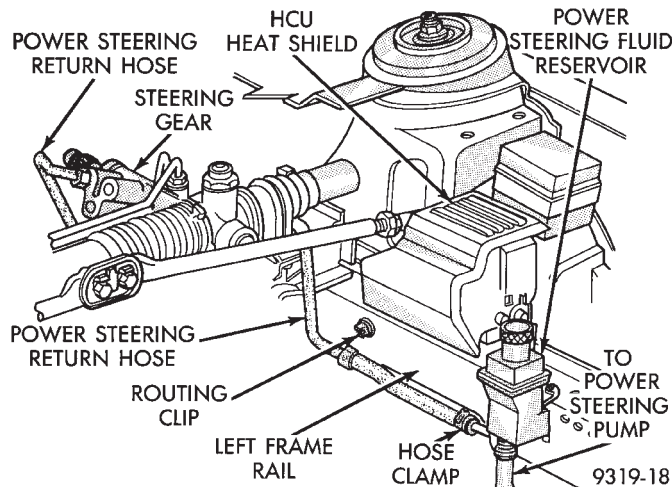

Fig. 6 Power Steering Return Hose Routing And Attaching
(3) Unclip power steering return hose from routing clip on frame rail (Fig. 6).
(4) Position drain pan under remote power steering fluid reservoir. Remove hose clamp from power steering return hose at remote power steering fluid reservoir (Fig. 6). Let power steering fluid drain from remote reservoir.
(1) Using a lint free towel, wipe clean the open power steering hose ends, power steering fluid reservoir and steering gear ports.
(2) Install new O-ring and/or washer seal on the end of the power steering return hose to steering gear fitting. Lubricate O-rings or washer seals using fresh clean power steering fluid.
(3) Install the power steering return hose assembly back into the vehicle. Be sure hose assembly is properly routed (Fig. 6).
(4) Install power steering return hose into steering gear return port and loosely install fitting. **Do not tighten power steering return hose to steering gear fitting at this time.**
(5) Install power steering return hose, onto remote power steering fluid reservoir (Fig. 6). Install hose clamp on power steering return hose, at power steering fluid reservoir (Fig. 6). **Be sure hose clamp is installed on hose past upset bead on power steering fluid reservoir.**
(6) Route power steering return hose so it is not in contact with any engine or body components (Fig. 6). Then torque power steering return hose to steering gear fitting to 31 N•m (23 ft. lbs.).
(7) Lower vehicle.